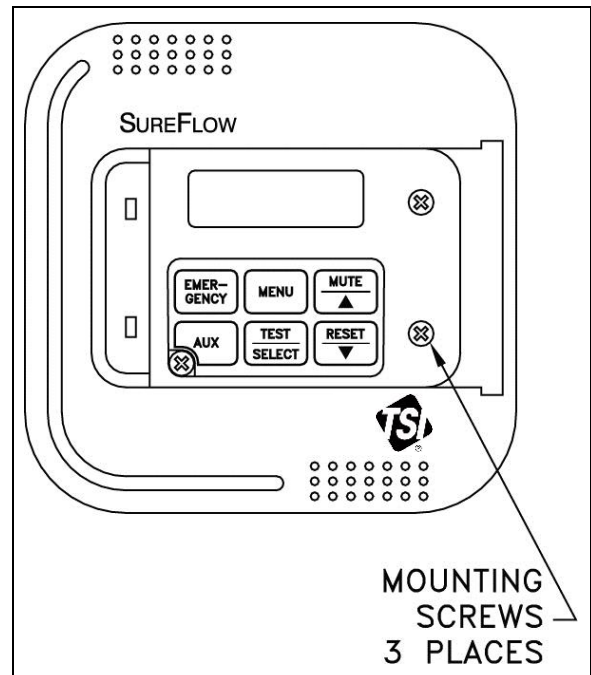

Figure 2: Digital Interface Module Mounting
3. Slide the DIM cover to the right and remove three screws holding the electronics to the base (Figure 2). Remove base.